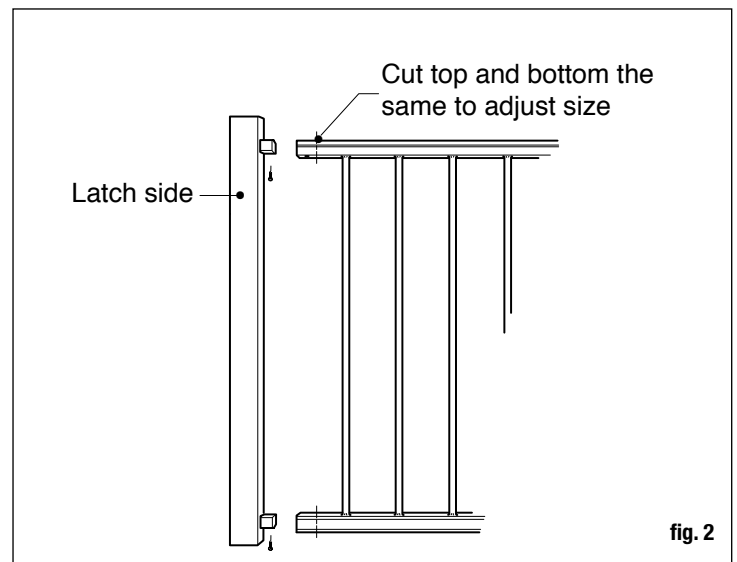

fig. 2
Measure gate and determine amount to be trimmed. Lay gate panel (A) on a flat, non-marring surface. Remove latch post (B) from gate (fig. 2).
Attach the latch post (B) to the gate panel (A) using 2 screws through the underside of the top and bottom rails into the splice on the latch post (fig. 2). Use care to avoid marring the post with the drill chuck. Turning the gate upside down may make this step easier.